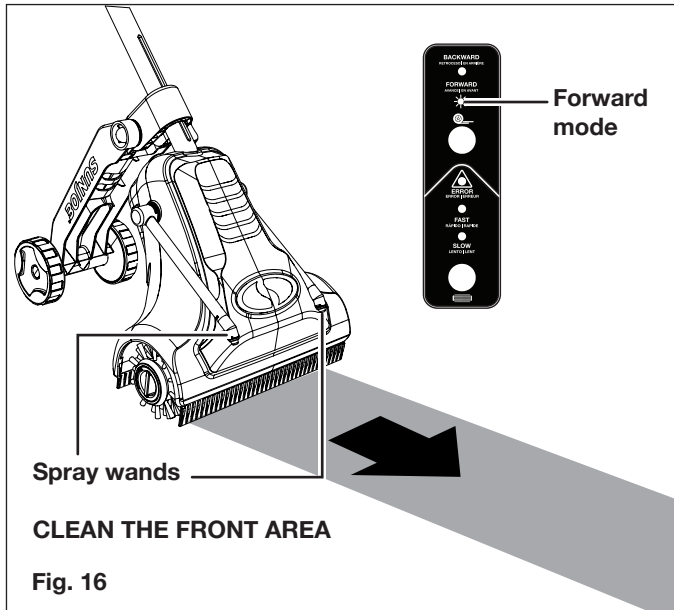

Fig. 16
5. Use the control panel to set the appliance in desired direction and brush speed. If the rear area needs to be cleaned, set the appliance in backward mode (Fig. 15). If the front area need to be cleaned, set the appliance in forward mode (Fig. 16) Make sure the spray wands are placed in the corresponding position.